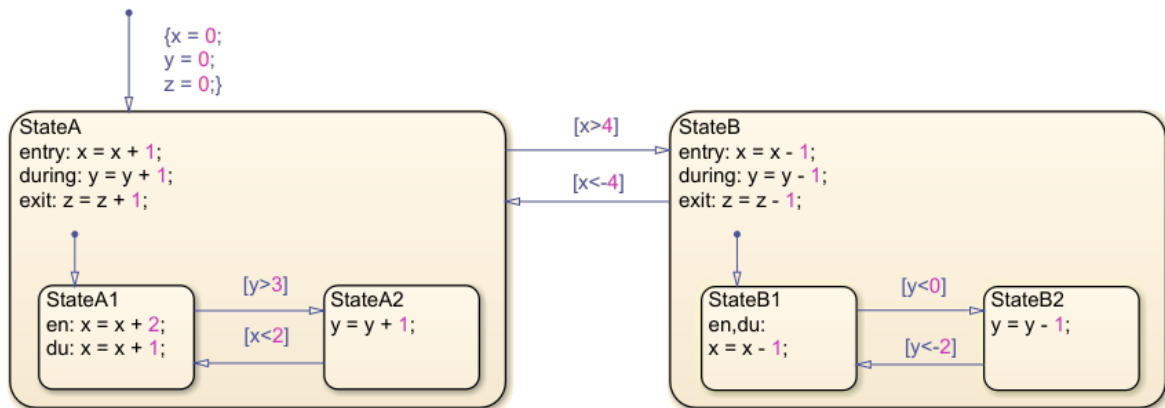

Figure 2: What is the execution order here?
- Use “Simulation Pacing” to have simulation time slightly faster than normal time (see Fig.2)